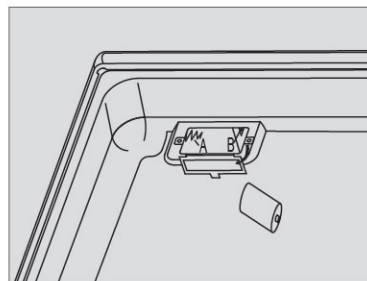

figure 3
- Install the battery (figure 3)